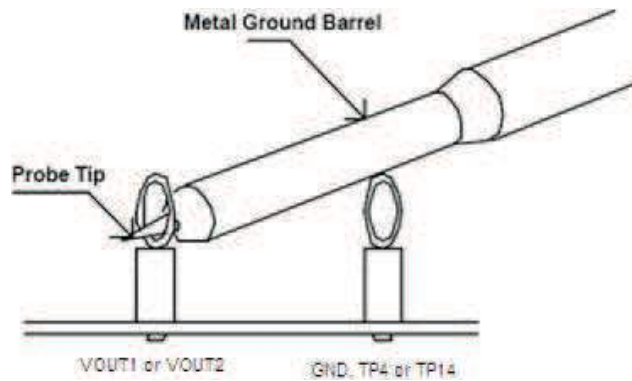

Figure 3. Tip and Barrel Voltage Ripple Measurement
**Oscilloscope:** A digital or analog oscilloscope can be used to measure the ripple voltage on VOUT. The oscilloscope should be set for 20-MHz bandwidth, AC coupled. Test points TP3 and TP4 can be used to measure VOUT1 and test points TP13 and TP14 can be used to measure VOUT2. Use the tip and barrel method shown in Figure 3 to avoid inducing additional noise due to the large ground loop area that would result from using the probe's ground lead.